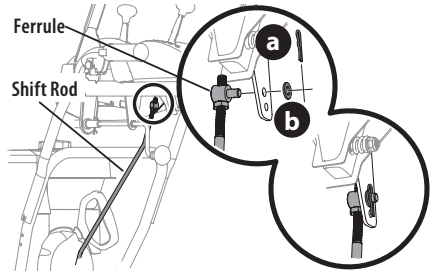

Figure 26
8. Remove hairpin clip (c) and washer (d) from ferrule on end of shift rod (Figure 26 inset).
10. Insert ferrule into top hole of shift lever and secure with hairpin clip (c) and washer (d) removed in Step 8 (Figure 26). Ferrule may need to be adjusted up or down.